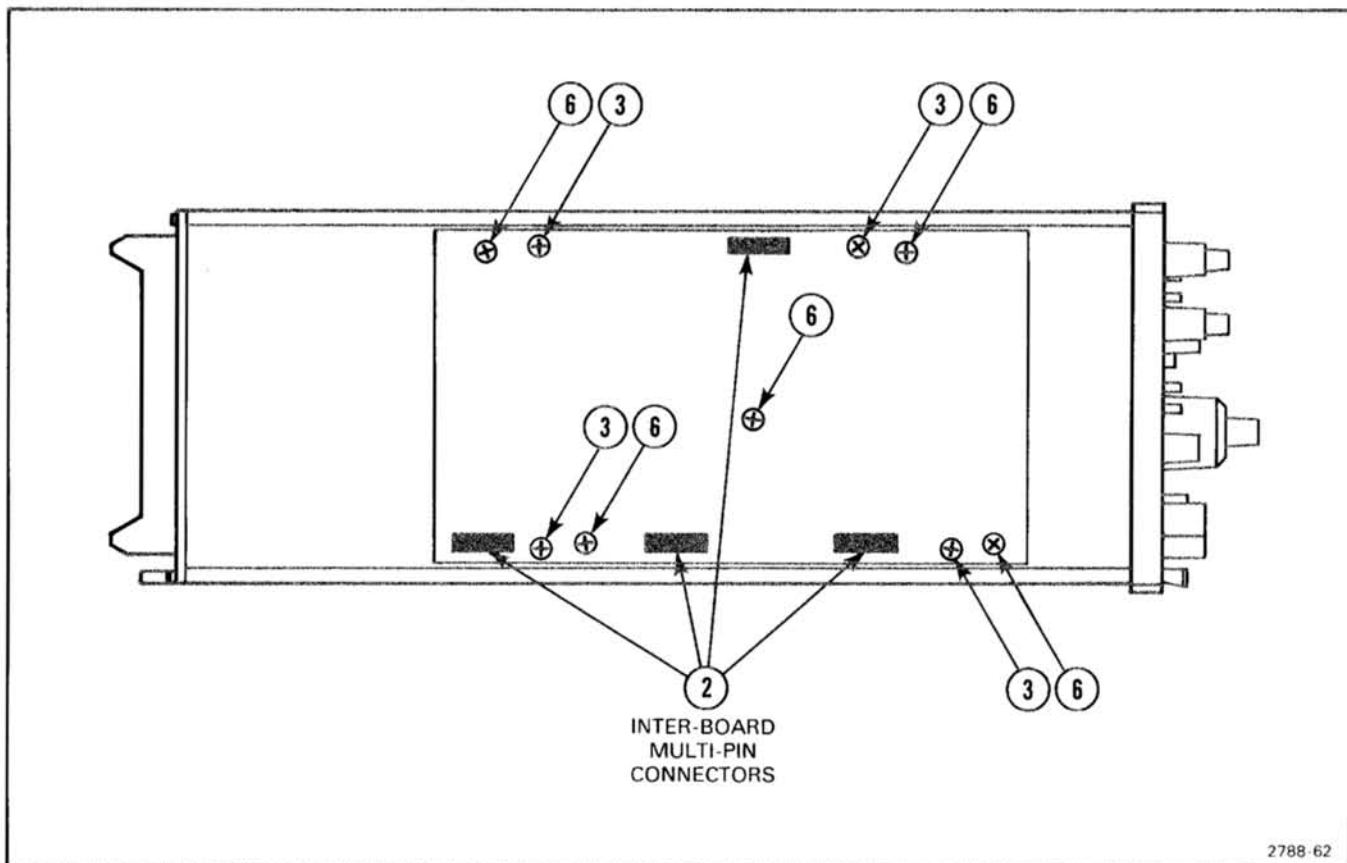

Figure 4-9. Location of securing screws and inter-board multi-pin connectors on clock circuit board.
2. Remove 4 inter-board multi-pin connectors shown in Figure 4-9. See Figure 4-3 for identification.
3. Remove 4 screws that secure circuit board as shown in Figure 4-9.